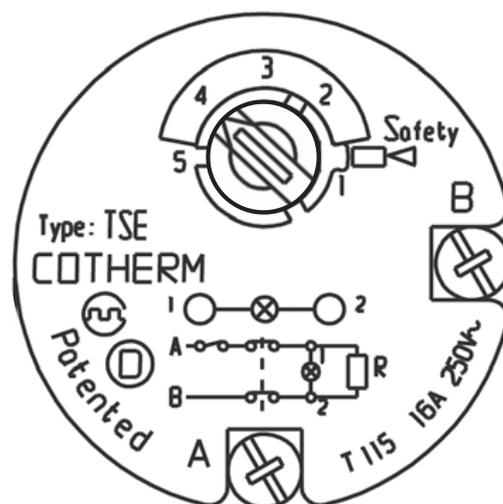

Figure 6-1: TSE single pole thermostat plan view details
3. The safety cut-out reset pin is positioned to the right-hand side of the control knob (indicated by a rectangle with the words 'safety' above). Refer to Figure 6-1.